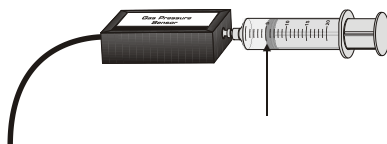

Figure 2
- b. Move the piston so the front edge of the inside black ring (see Figure 2) is positioned at the 5.0 mL line on the syringe. Hold the piston firmly in this position until the pressure value displayed on the screen stabilizes.